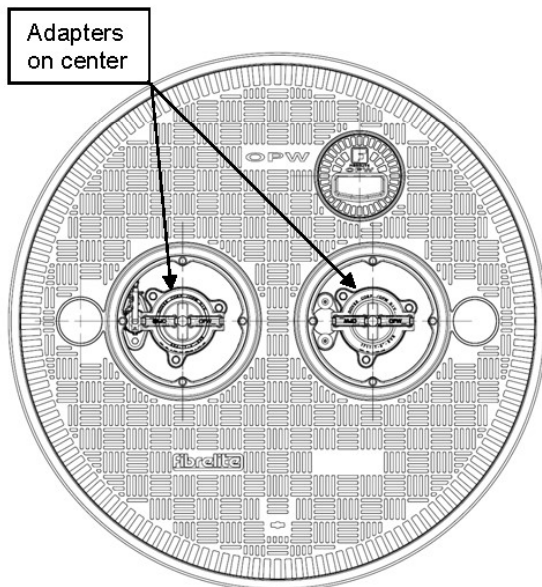

Figure 29
39. Ensure existing adapters are on center with existing ports. Adapters should be within approximately 1" radially of port center. If adapters are too far off center a retrofit may not be possible (See Figure 29.)
50. Ensure existing adapters are on center with existing ports. Adapters should be within approximately 1" radially of port center. If adapters are too far off center a retrofit may not be possible (See Figure 29)